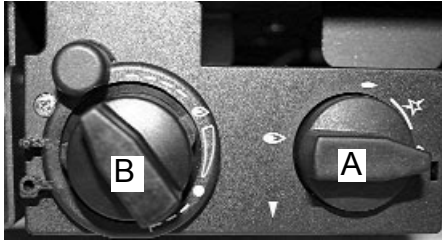

Fig. 20e
Note: Ensure burner control knob “B” is set at maximum and pilot control knob “A” is set in the off position. (See Fig. 20e)
Step 3. To turn the stove and the pilot off completely, turn control knob “A” to the small flame setting, (pilot flame) depress and turn to off position, then release (See Fig. 20e)